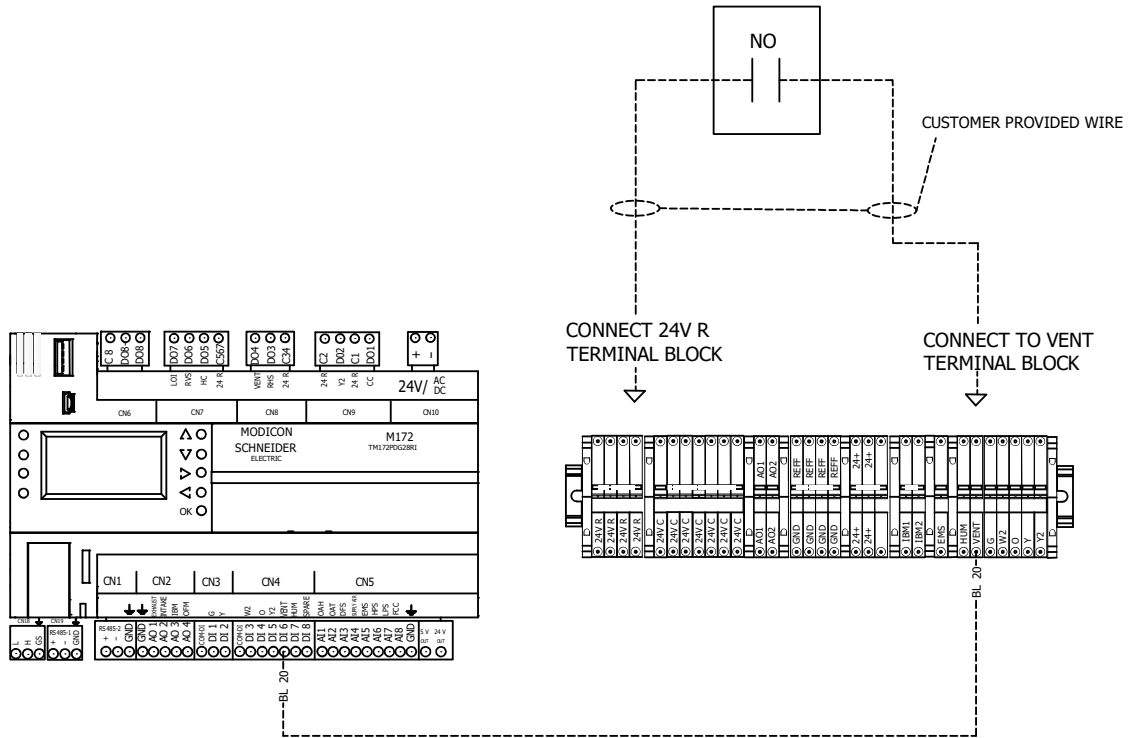

Figure 8. Ventilation Controls Wiring Detail
- F. For units with the reheat dehumidification option, the humidity controller (p/n 50057) is remotely mounted on the wall in accordance with the same instructions for the mounting of the wall thermostat installation given in Section 1.12 of this manual. Low voltage leads from the humidity controller are brought into the terminal strip area as shown by routing through the raceway noted in Figure 8, where the "R" lead is connected to the R terminal on the terminal strip. The other lead is connected to HUM on PLC as noted on the wiring schematic of the heat pump.